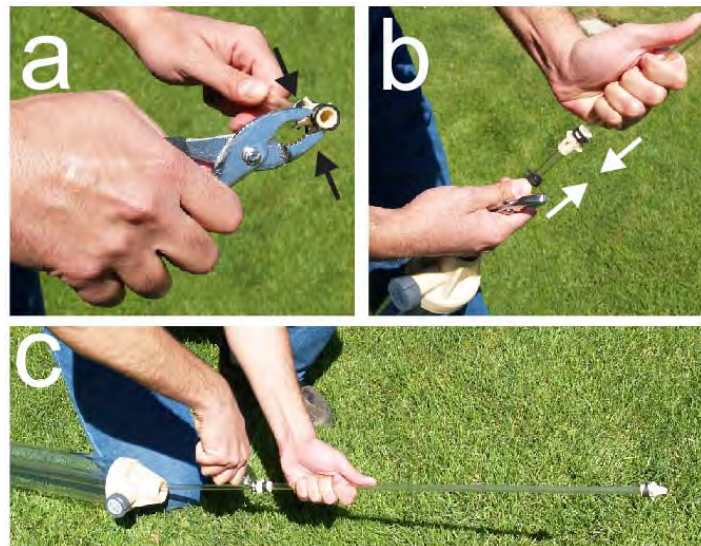

*Fig. 21. Assembling the Tripod.*
**Connect the Legs to Tripod Base** (Fig 21). When working on slopes, the telescopic feature of the Tripod Base allows the angle of the Tripod Legs to be adjusted as needed. On a level soil surface there is no need to extend the legs.